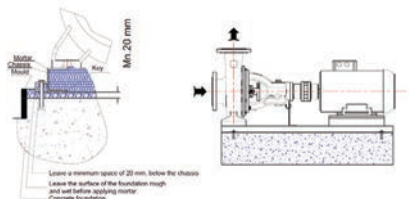

Figure 3: A Typical Concrete Foundation
- Install the pump on the concrete base as illustrated in Figure 3.